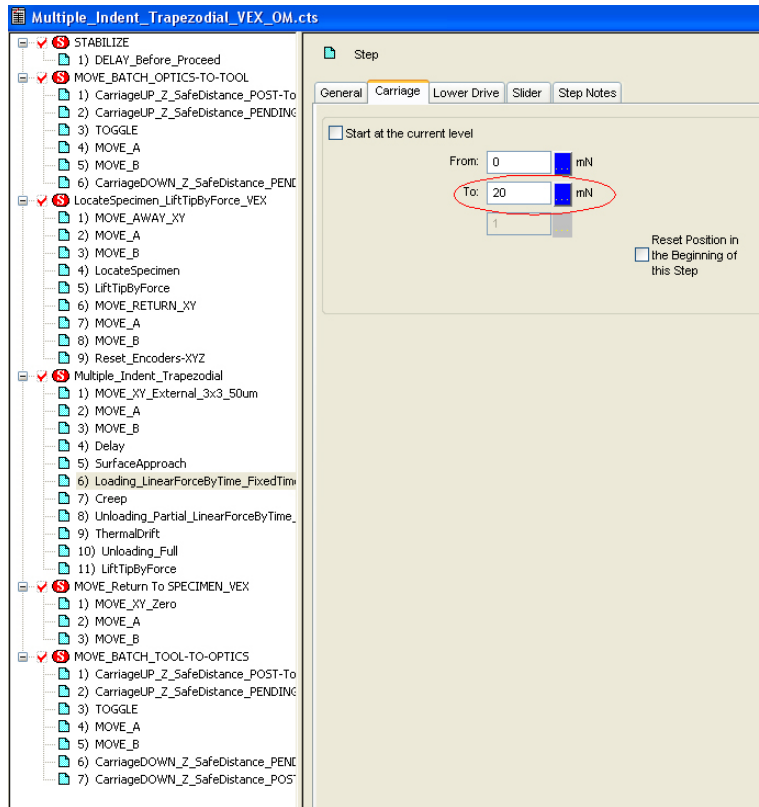

Figure 9: Changed Indentation force to 20mN.
- a. To change the load for all of the indents, simple change the load number from 10mN to a different number such as 20mN as shown in Figure 9.